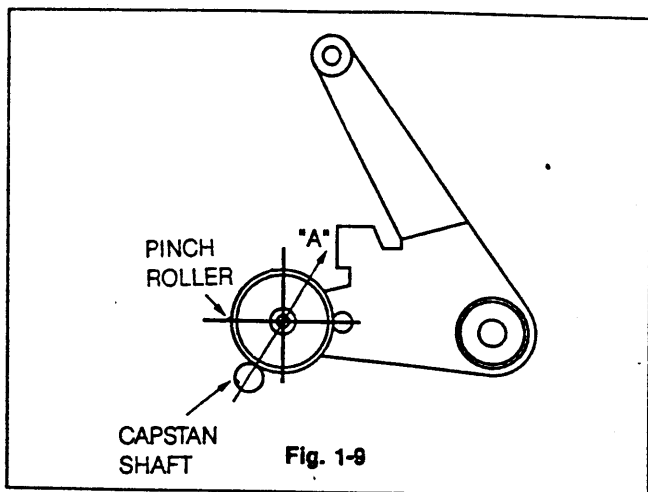

Fig. 1-9
- 3) Pull the push-pull gauge to the direction 'A' indicated by the arrow as shown in Fig. 1-9.